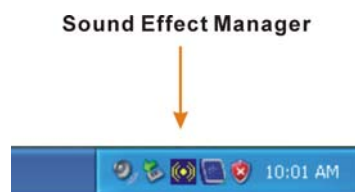

Figure 6-21: Sound Effect Manager Icon [Task Bar]
- The **Sound Effect Manager** icon in the **Notification Area** of the system task bar (see **Figure 6-21**), or